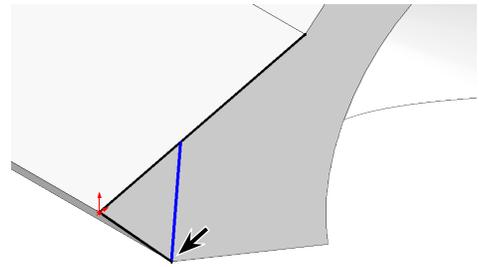

Fig. 60
Step 5. Click **Line**  (L) on the Sketch toolbar.
Step 6. Sketch **line from bottom endpoint up to top line**, **Fig. 60**.